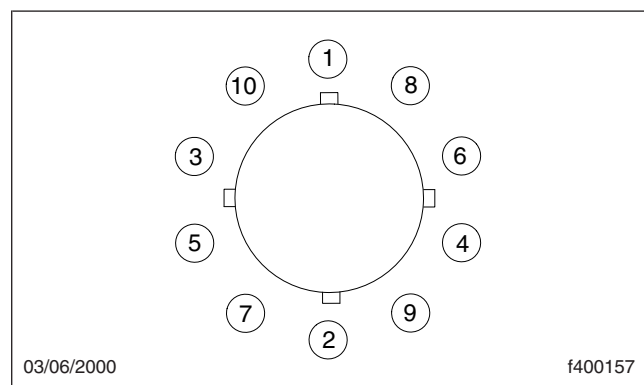

Fig. 1, Wheel Nut Tightening Sequence
Check the torque on all wheel nuts. See Table 1 for torque specifications, and see Fig. 1 for the wheel nut tightening sequence.
Insufficient wheel nut torque can cause wheel shimmy, resulting in wheel damage, stud breakage, and extreme tire tread wear. Excessive wheel nut torque can break studs, damage threads, and crack discs in the stud hole area. Use the recommended torque values, and follow the tightening sequence shown in Fig. 1.
8. Place the air dryer on a bench and remove the remaining 6 bolts, 12 washers, 6 Nylok nuts, and the air dryer housing. See **Fig. 1**. Discard the Nylok nuts. Remove the end-cover-to-housing O-ring.